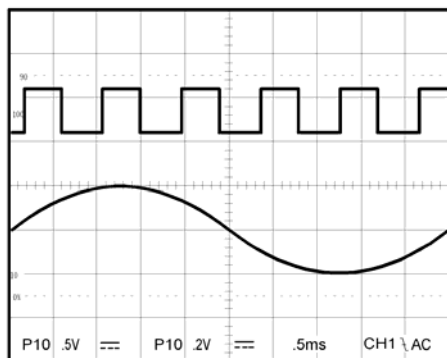
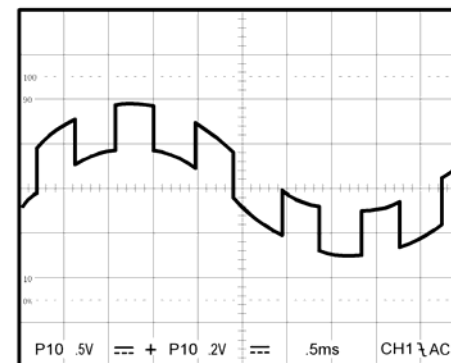

Figure 5-5 Both typical waveforms
Figure 5-6 Typical ADD waveform
1. Set the CH1 and CH2 on. The figure 5-5 below shows two synchronous waveforms in the both modes.
1. Set the ADD button to ADD mode. The figure 5-6 below shows the sum of the waveforms from figure 5-5.